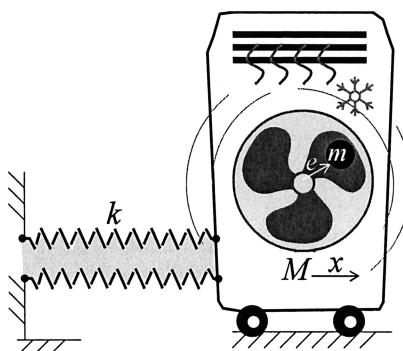

Figure 5
- (b) Figure 5 shows a portable air conditioner of total mass M on wheels while its flexible ventilation hose was fixed to an exhaust hole. The flexible hose presents a horizontal spring constant of value k . It happened that the portable air-conditioner vibrated excessively because the fan was spoilt. The spoilt fan is subjected to an unbalance mass m located at an eccentricity radius e from the axle.